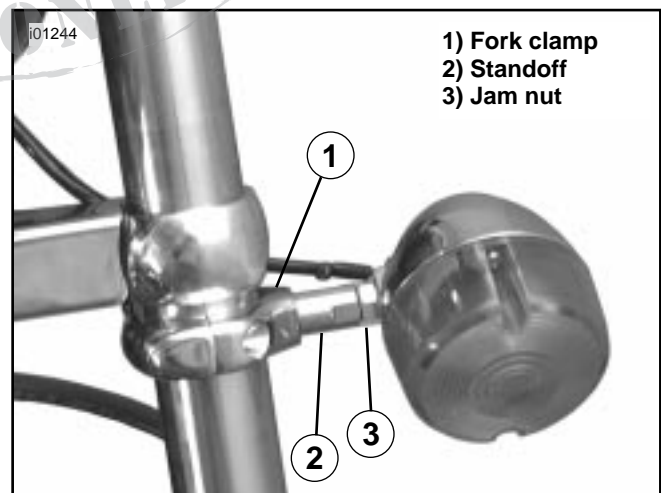

Figure 1. Turn Signal Installed
3. See Figure 1. Thread standoffs with jam nuts into lamp housings.